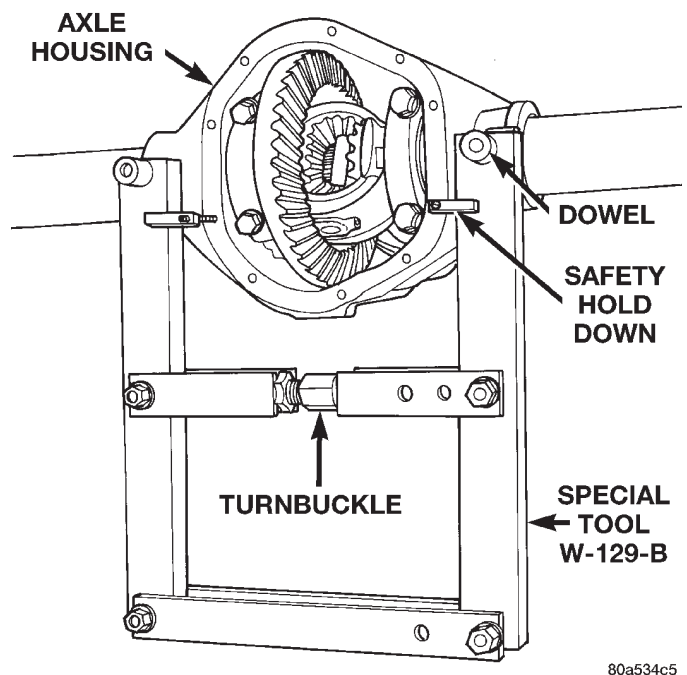

Fig. 32 Install Axle Housing Spreader
- (6) Loosen the differential bearing cap bolts.
- (7) Position Spreader W-129-B, utilizing some items from Adapter set 6987, with the tool dowel pins seated in the locating holes (Fig. 32). Install the hold-down clamps and tighten the tool turnbuckle finger-tight.